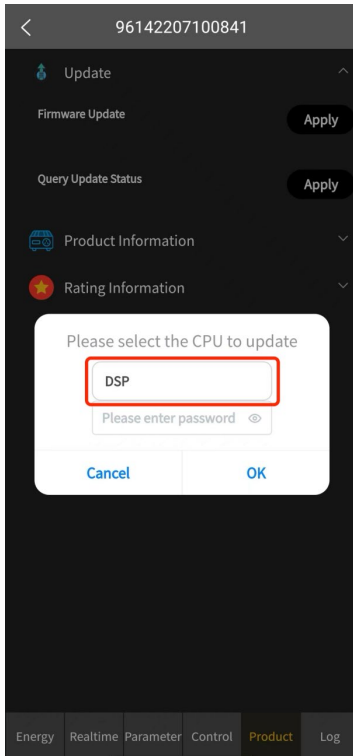

Figure 1
- (1) If the inverter does not upload the firmware, a warning dialog will pop up. Please contact the supplier to upload the firmware.
- (2) For the first update, the update pop-up dialog is shown below.
- (3) If not the first update, the last updated CPU will be indicated at the location circled in red.
5. Click the selection box circled in red in Figure 1 to call the drop-down box option. Select the CPU to be updated. In the example shown in Figure 2, DSP is selected.